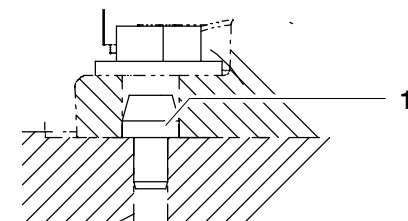

Fig. 67 Locating pin
- (1) Check that both locating pins (Fig. 67/1) are undamaged and fitted securely.